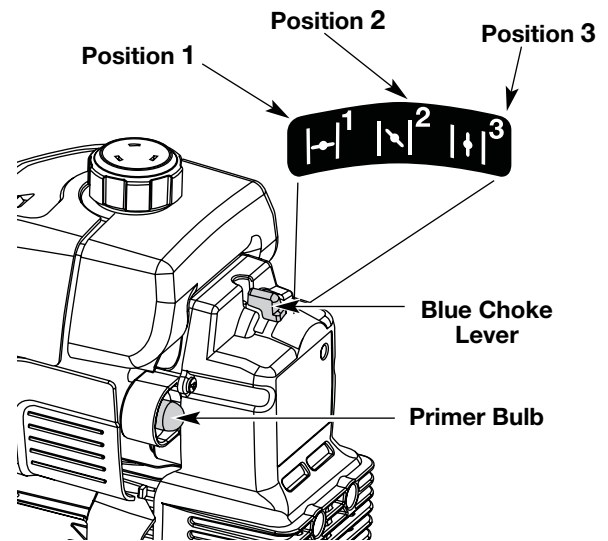

Fig. 10
3. Fully press and release the primer bulb 10 times, slowly. Some amount of **fuel should be visible in the primer bulb** and fuel lines (Fig. 10). If you can't see fuel in the bulb, press and release the bulb as many times as it takes before you can see fuel in it.
4. Place the blue choke lever in **Position 1** (Fig. 10).
10. Once the engine is warmed up, place the blue choke lever in **Position 3** (Fig. 10). The unit is ready for use.
IF... The engine hesitates, return choke lever to **Position 2** (Fig. 10) and continue warm up.